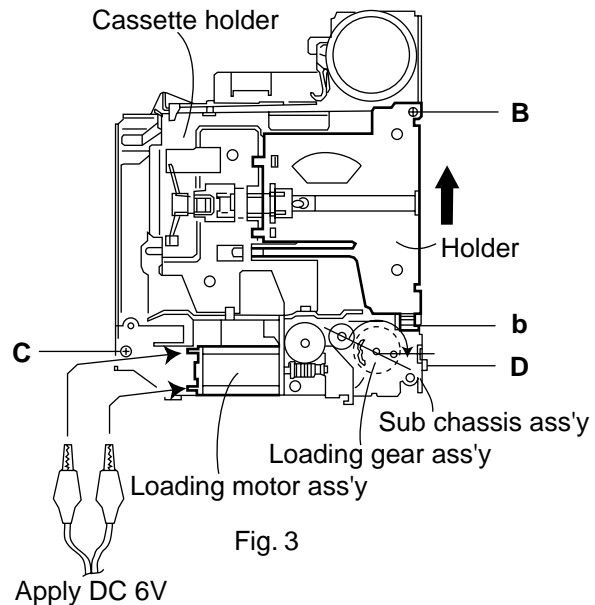

Fig. 3
3. Apply DC 6V to the lead wire of the loading motor ass'y and turn the load gear ass'y to the position shown in Fig. 3.